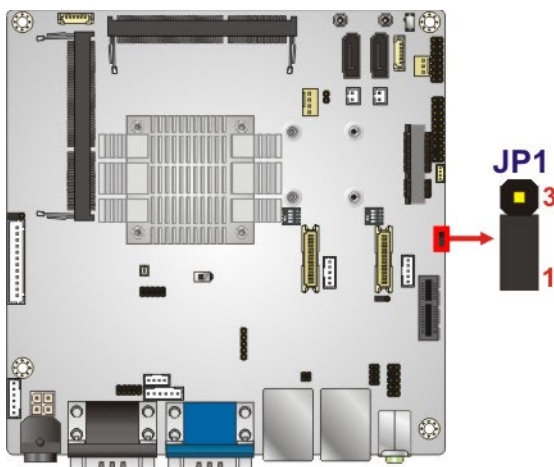

Figure 4-15: LVDS1 Voltage Selection Jumper Location
- Jumper Location:** See Figure 4-15